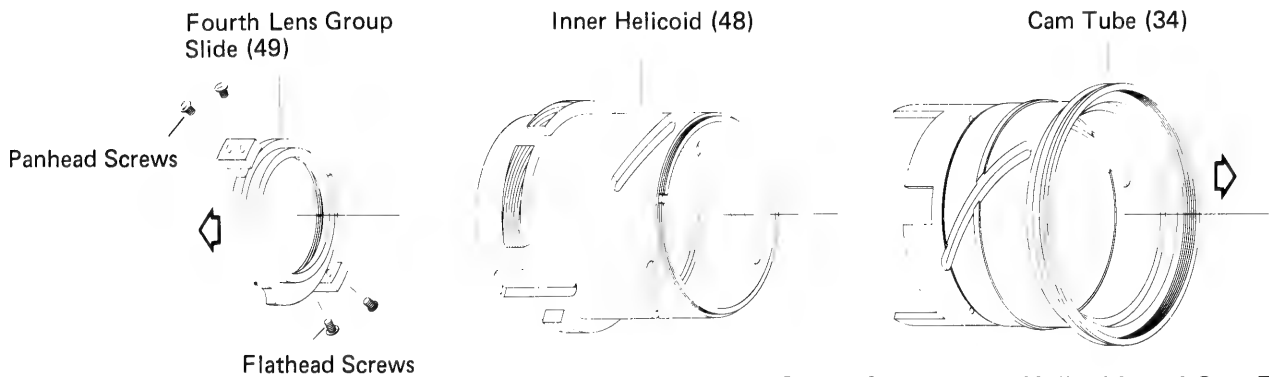
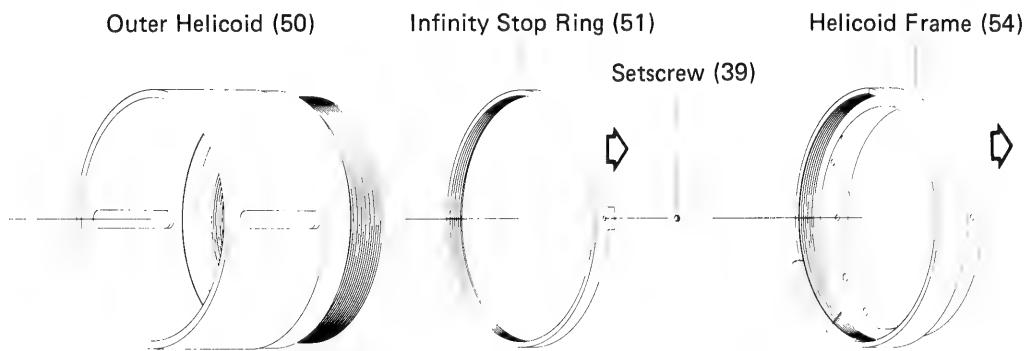

Figure 3-4. Fourth Lens Group Slide, Inner Helicoid, and Cam Tube
Figure 3-5. Outer Helicoid and Helicoid Frame
3.2.5 Disassembly of Main Component Group (Figures 3-4 through 3-6)
5. Remove four screws (Figure 3-4) that hold the fourth lens group slide (49) to the inner helicoid (48).
7. This is the earliest point at which the third lens group (505) can be removed. If it is necessary to remove it for cleaning without removing the diaphragm housing assembly, use the pin Tool No. 3650743 to unscrew the lens group.
8. Loosen or remove the two setscrews (39) in the infinity stop ring (51, Figure 3-5). Unscrew the helicoid frame (54) and the stop ring from the outer helicoid (50).